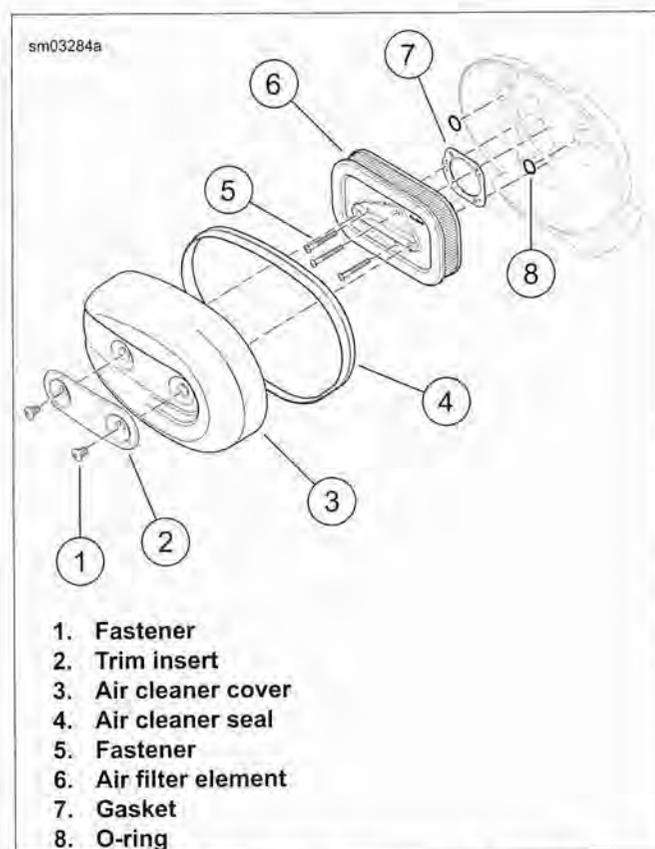

Figure 1-76. Air Filter Element: XL Models
1. See Figure 1-76. Remove the two fasteners (1) and the trim insert (2) from the air cleaner cover (3).
2. Remove the air cleaner cover from the backplate. Remove air cleaner seal (4) from the cover.
3. Remove three fasteners (5). Remove the air filter (6) and the gasket (7) from the backplate. Discard the gasket.
1. See Figure 1-76. Apply a thin coat of engine oil or light grease to the O-rings (8).
2. Position a **new** gasket (7) on the air cleaner backplate. Line up the gasket holes with the backplate holes.